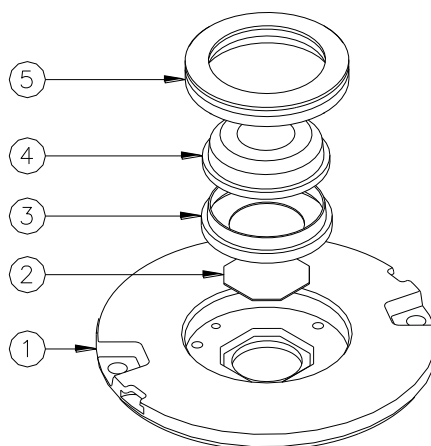

Figure 23 - Lens Replacement
- remove the old lens and the gasket (Figure 23 – n°3-4), carefully clean the lens seat by scraping and taking care not to damage the relevant walls.
- place a new gasket (Figure 23 – n°3) around the lens